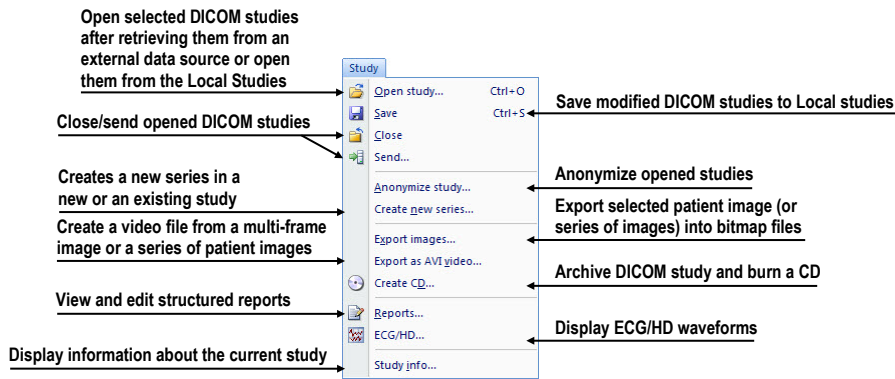

Figure 35 – Study menu
- **Study** – patient study operations containing the functions for opening/closing/saving studies, anonymizing and burning studies onto a CD, exporting images and creating/viewing structured reports (see Figure 35).